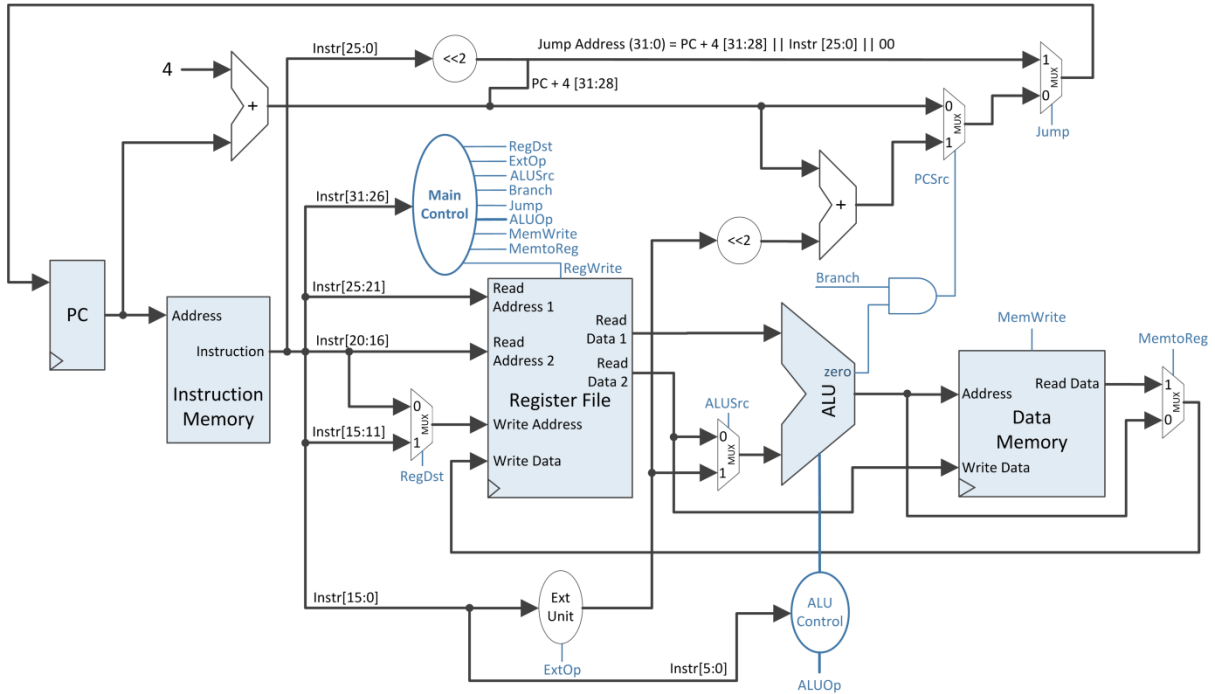

Figure 1: MIPS 32 Single-Cycle Data-Path + Control
- Data-Path for MIPS 16 – paper and pencil (Lab 04 Assignment 3.3; use Figure 1 from this laboratory as reference, or lecture 04 for more details)